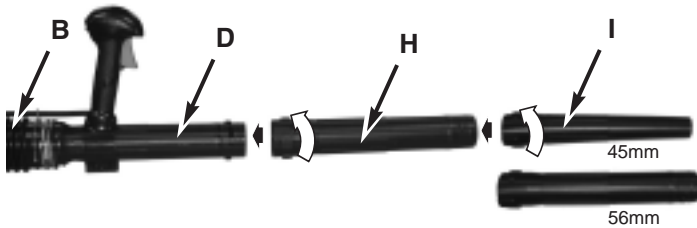

Fig. 7
Connect the intermediate tube (H) and air nozzle (I). Push the tubes together and turn them clockwise so that they lock together. (Fig. 7)